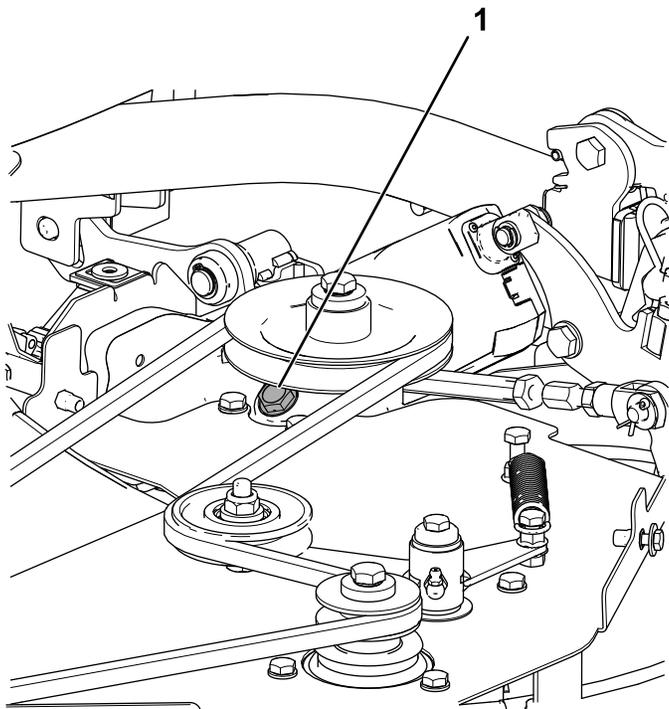

Figure 95
1. Remove the cutting unit gearbox plug (Figure 95).
1. Remove the plug from the cutting-unit gearbox (Figure 95).
3. Install the plug into the cutting-unit gearbox (Figure 95).